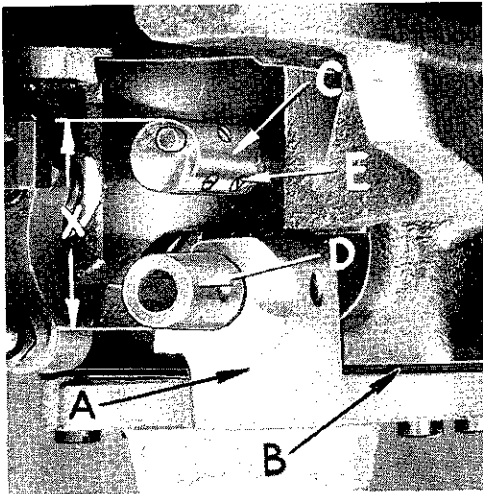

Fig. 18
The foregoing adjustment may be made by loosening the three screws (E, Fig. 18) in the hook driving barrel (C) and rotating the barrel until the above condition is satisfied.
Should it become necessary to replace either the hook carrier bracket (A, Fig. 18) or the shim gasket (B) for it, it is extremely important that the proper distance between the hook barrel (C) and hook carrier bushing (D) be maintained. Use a micrometer to check this dimension as shown at "X" in the illustration. This dimension is 1.370 inch plus or minus .005 inch.